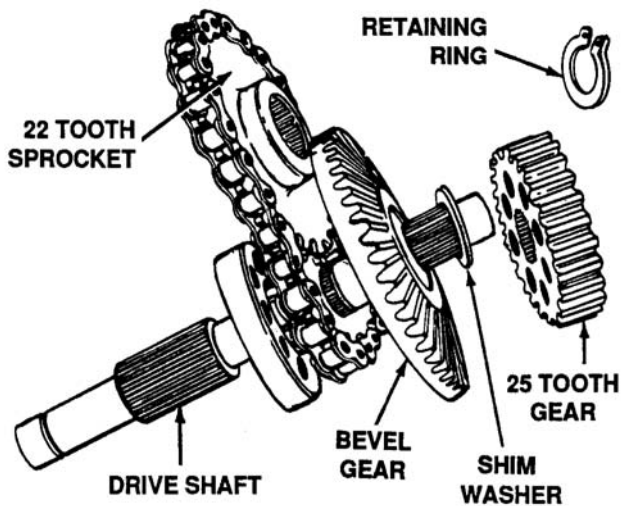

Figure 5-47. Removal of 25 Tooth Gear and Shim Washer
25. Remove the 25 tooth gear and shim washer. See Figure 5-47.